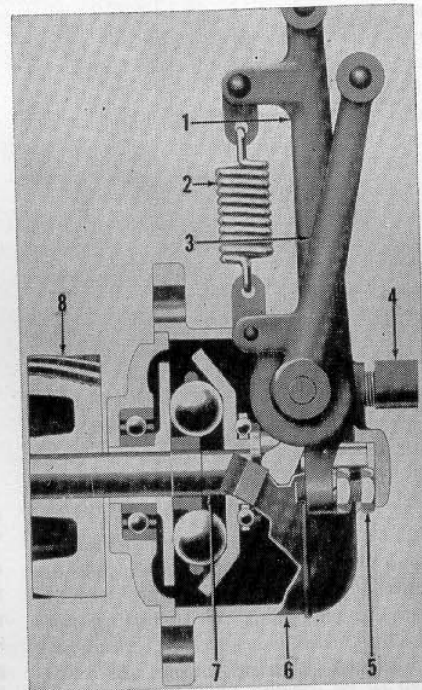
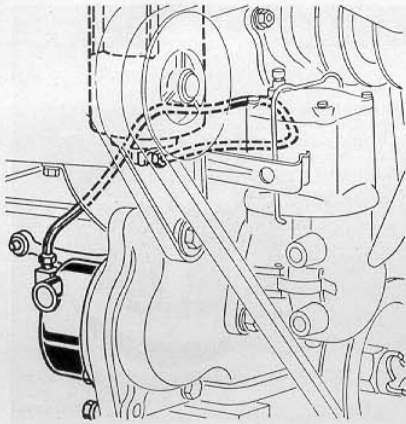

Fig. FO28—Novi ball type governor used on models 2N-8N-9N tractors.
Fig. FO29—Governor external oiling system on models 2N-8N-9N.
43. The governor, shown in Fig. FO28 is a variable speed, ball type, driven by engine timing gears and interconnected with the throttle linkage and carburetor throttle valve. Splash lubrication is provided from timing gear case and it is important that the large oil passage opening in governor ball bearing carrier plate, be installed at top or up position to assure proper lubrication. Further lubrication is provided by an oil line which connects between rear of governor housing and oil filter as shown in Fig. FO29. Early model tractors were not provided with
44. **ADJUSTMENT.** The governor spring (2—Fig. FO28) should be a snug fit but should have no end play and no pre-load. Spring may be adjusted by bending the loop on the spring with pliers. Check engine speed at Power Take-Off shaft or belt pulley, after engine is warmed up. Correct governed